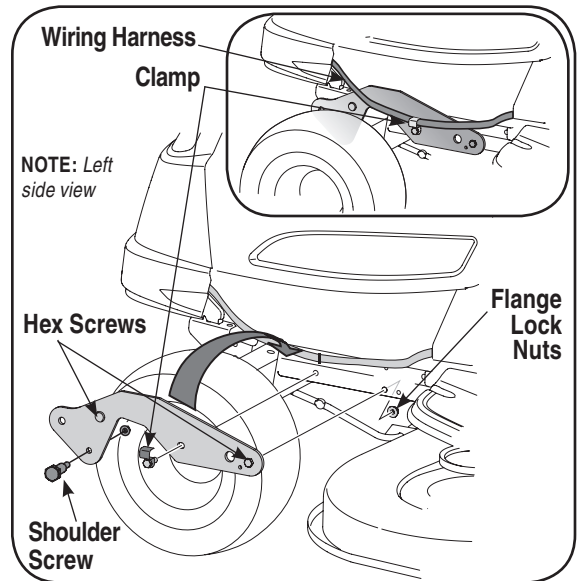

Figure 17
1. Install a shoulder screw (738-0143) and flange lock nut (712-04065) in the top front hole of each snow thrower assembly bracket as in Figure 17.
2. Mount snow thrower assembly brackets (683-04214 & 683-04215) to your tractor using the loose hardware included (Hex Screw 710-0514 & Flange Lock Nut 712-04065). See Figure 17.